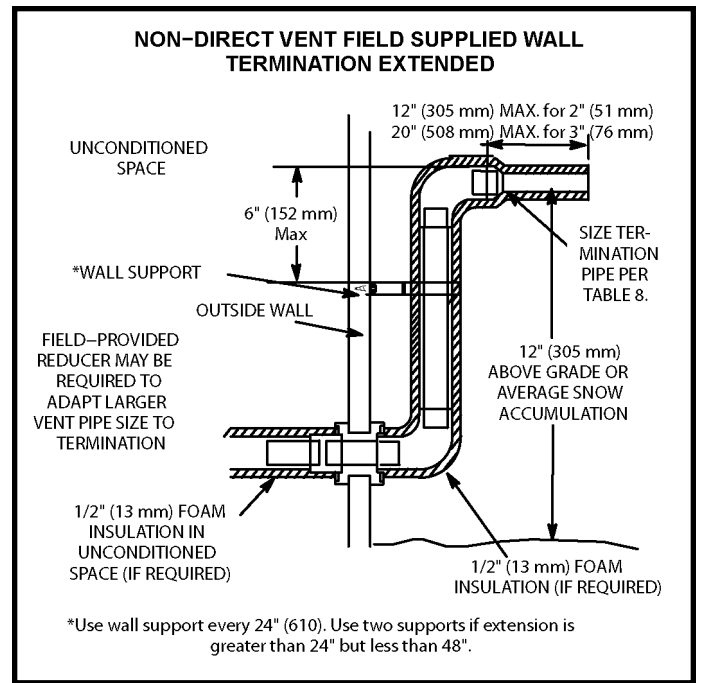

Figure 46
- If exhaust piping must be run up a sidewall to position above snow accumulation or other obstructions, piping must be supported every 24" (610 mm) as shown in Figure 46. When exhaust piping must be run up an outside wall, any reduction in exhaust pipe size must be done after the final elbow.